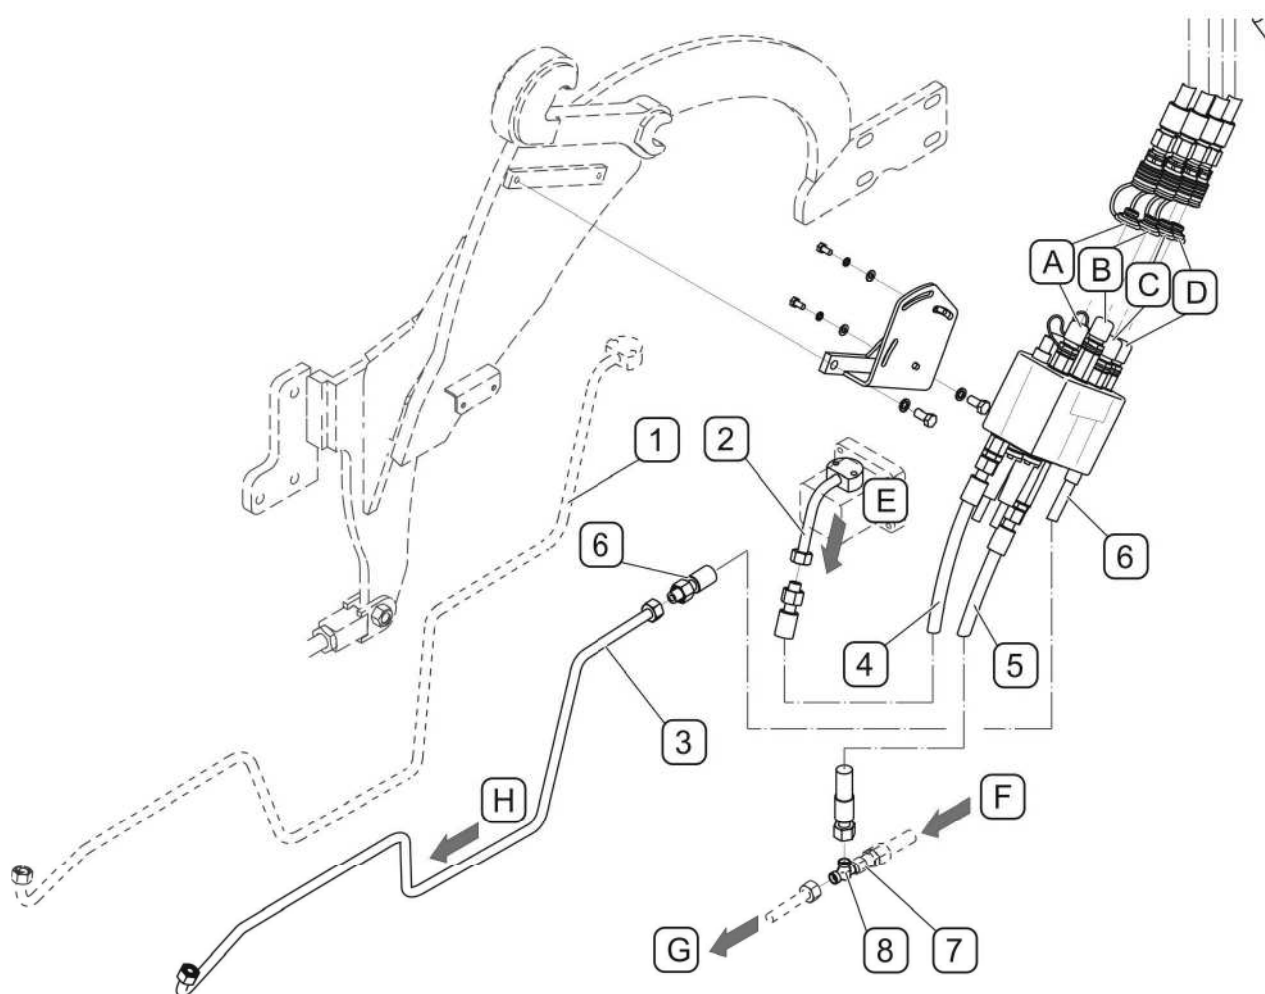

FIG. 4.11A Selective control valve connection to hydraulic system (ZEFIR 85/85K from factory number 72)
In Zefir 85/85K tractors from factory number 72 FIG. 4.11A). change hydraulic line (1) connecting oil pump (E) with tractor selective control valve, for two conduits: (2)–conduit 145N-01020400 i (3)–conduit 145N-01020500. Using flexible conduit (4) connect to connecting pipe supplying selective control valve with metal line (2) near pump. Connect flexible line (6) to side connecting pipe of selective control valve and to metal line (3) of tractor selective control valve. Flexible line (5) of oil return circuit from selective control valve shall be connected through tee junction (8) behind choke valve (7) to oil return circuit with orbitrol control system. Loader's hydraulic system is connected to selective control valve using quickcouplers (A), (B), (C), (D), marked with appropriate colours.